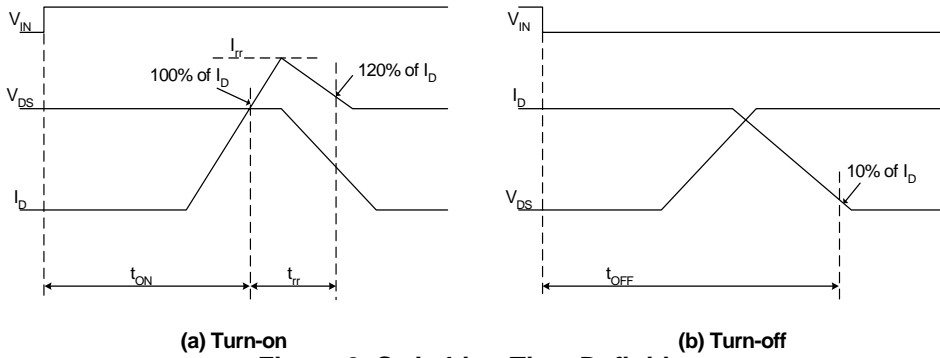
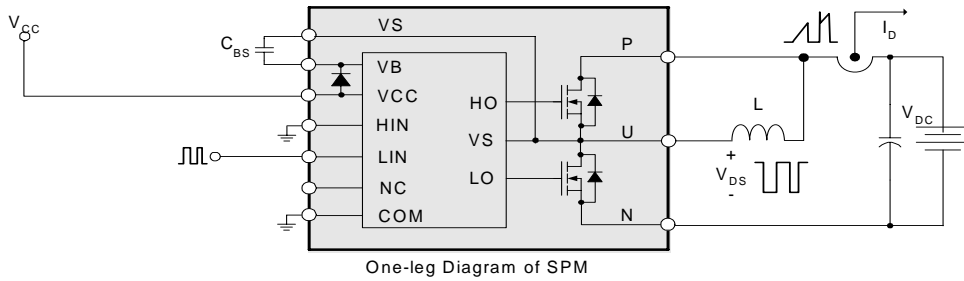

Figure 3. Switching Time Definition
Figure 4. Switching and RBSOA(Single-pulse) Test Circuit (Low-side)
- t_{ON} and t_{OFF} include the propagation delay time of the internal drive IC. Listed values are measured at the laboratory test condition, and they can be different according to the field applications due to the effect of different printed circuit boards and wirings. Please see Figure 3 for the switching time definition with the switching test circuit of Figure 4.
- The peak current and voltage of each FET during the switching operation should be included in the safe operating area (SOA). Please see Figure 4 for the RBSOA test circuit that is same as the switching test circuit.